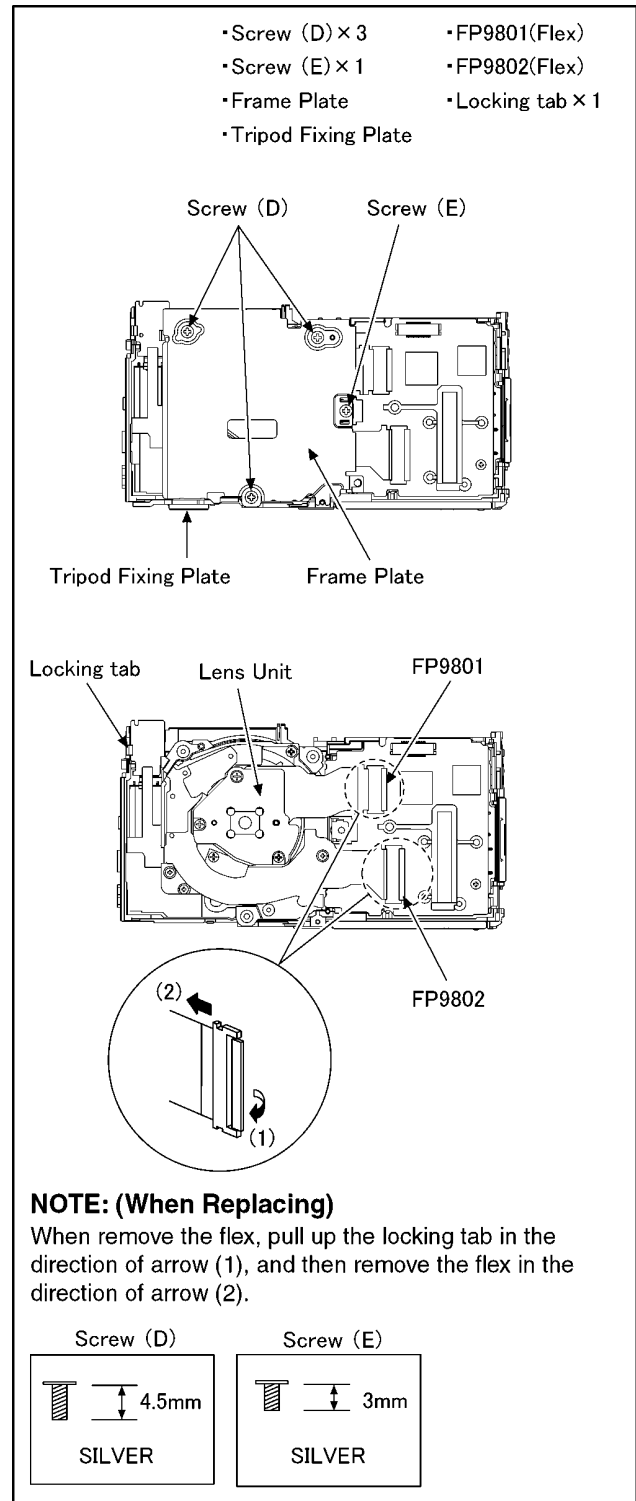

Fig. D10
| 7 | Lens Unit | Fig. D10 | 3 Screws (D) | | | |